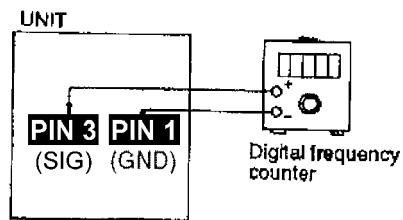

Figure 6
1. Connect the digital frequency counter to Pin 3 (signal) & Pin 1 (ground) (Figure 6).